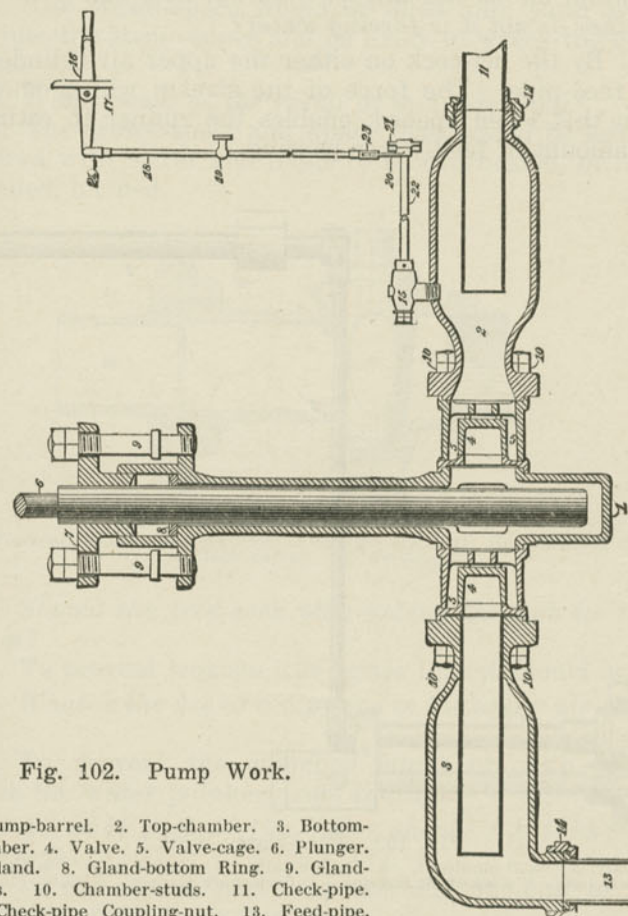

Fig. 102. Pump Work.
A. There is a horizontal barrel with a plain round pole or plunger playing in a stuffing box. Below one end of this barrel is a suction-chamber, into the bottom of which the suction-pipe from the tank enters, and which contains a central pipe surrounded by an annular space serving as an air-chamber. Above the barrel and at the same end with the suction-chamber is a discharge-chamber through which projects a central discharge-pipe, leaving around it an annular air-chamber. Between suction-chamber and barrel is an upward-opening valve; between discharge-chamber and barrel is another upward-opening discharge-valve or pressure-valve; each of these being an inverted cylindrical brass cup resting water-tight on a brass seat, and working in a cage guide. When the plunger is withdrawn from the barrel there is formed (if the joints are tight) a partial vacuum, which is filled (if the plunger does not return too quickly) by water from the tank, which rises through the suction-valve. When the plunger again enters the barrel this water is discharged through the pressure-valve into the boiler—or at least into the air-chamber and pipe between the pressure-valve and the boiler—displacing other water that is in the same line. At the end of the feed-pipe furthest from the pump is another upward-opening valve called a check-valve, serving as a check or extra precaution lest the pressure-valve should not be tight, or should be injured, or held from its seat by a chip or other piece of foreign matter. The check-valve may be either inside or outside the boiler. The horizontal pump-barrel has attached to it a top chamber 2 (see Fig. 102),
*A. By a feed-cock in the suction-pipe, regulating the amount that can pass to the pump (see Figs. 102 and 103) ; also by the valves between tank and tender-hose.*